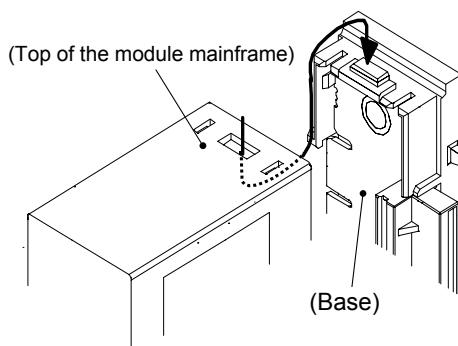

Fig. 2: Mounting the module mainframe
- Mount the module on the base. (Fig.2)